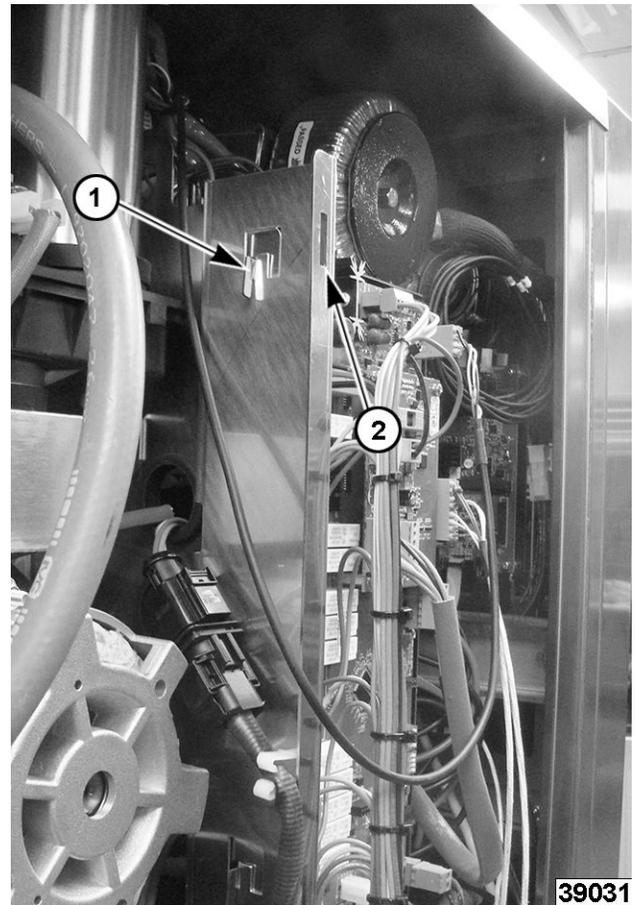

Fig. 10
3. Lift bracket up, pull and remove. (1, Fig. 10).
4. Hang on outer hooks on front flange (2, Fig. 10) for service position.